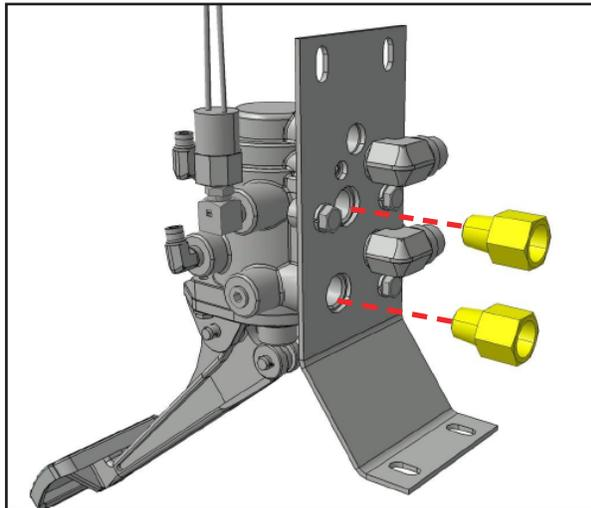

Figure 9: Remove and retain the two straight fittings.
9. Remove and retain the two (2) straight fittings (Figure 9).